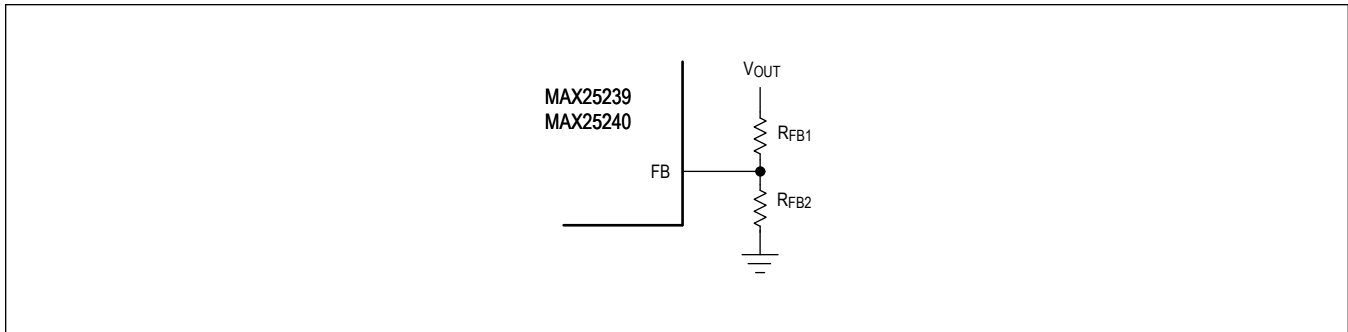

Figure 1. Output Voltage External Adjustment
Connect FB to  $V_{CC}$  to enable the fixed output voltage set by a preset internal resistive voltage-divider connected between the feedback pin (FB) and AGND. To externally adjust the output voltage between 3V and 20V, connect a resistive voltage-divider from the output (OUT) to FB to AGND, as shown in Figure 1. Calculate  $R_{FB1}$  and  $R_{FB2}$  using Equation 12.